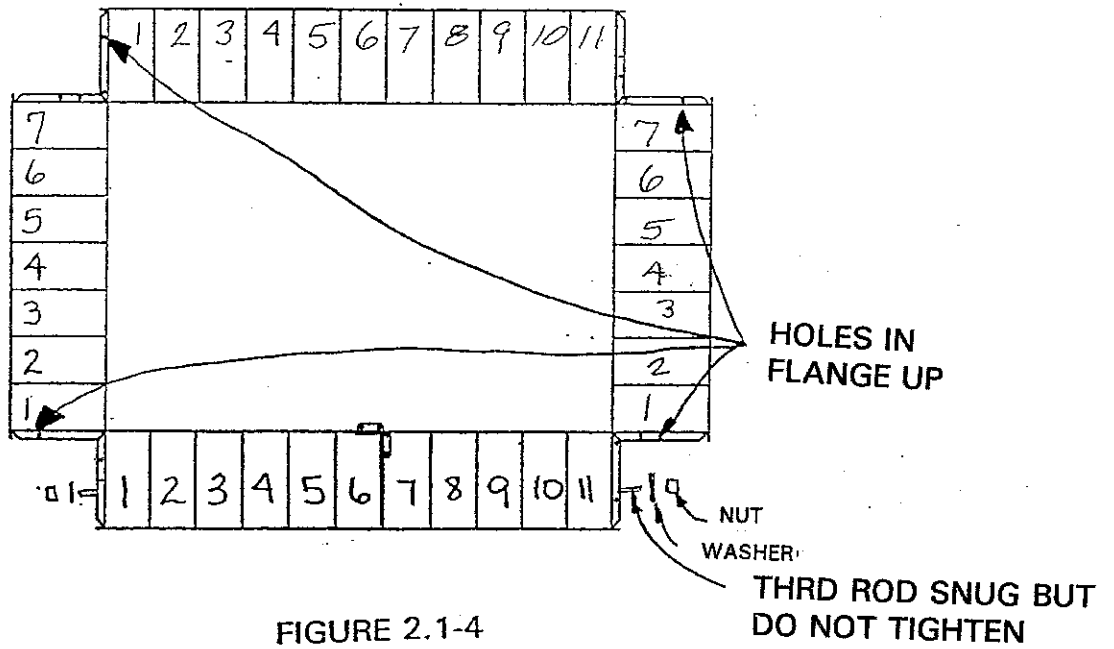

FIGURE 2.1-4
- STEP 4:** Place a corner bracket (item# 1) on each end of the blocks, with the holes in flange pointing up, and fasten them to the thread rods using a 1/2" flatwasher and hex nut (items# 13,16) on each end as shown in figure 2.1-4. Hand tighten only.